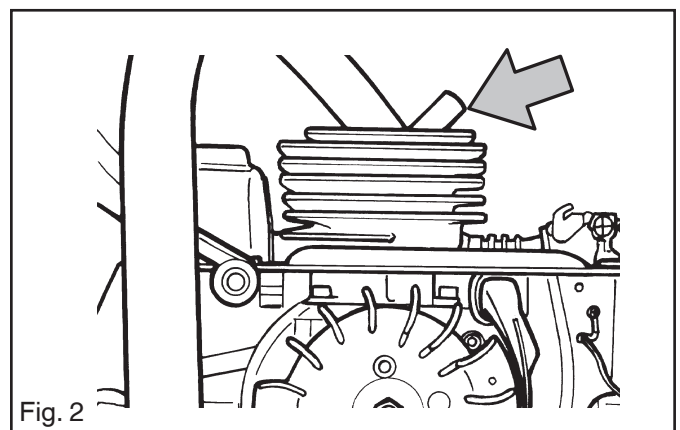

Fig. 2
6. Remove the spark plug and fit the piston stop (*Refer to "3 Service tools" on page 8*) in the spark plug hole. See fig. 2.